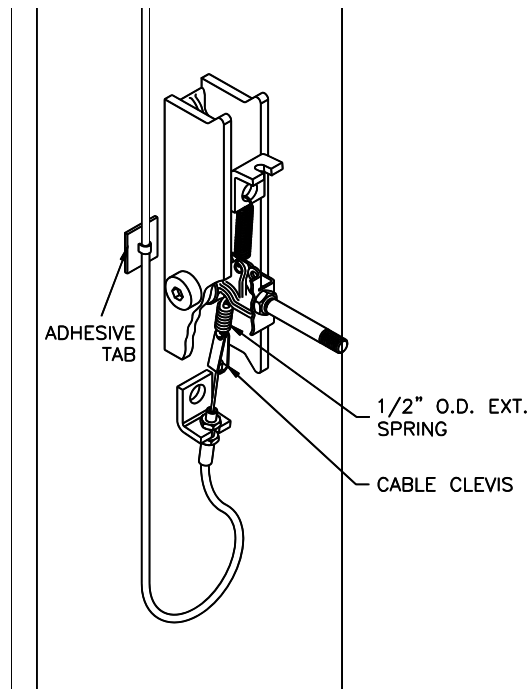

Fig 11 - Idler Column Lock Release Assembly
- 28) Attach Adhesive-Backed Tab to Idler Column left of the lock assembly (**Fig 11**). Route Lock Release Cable down left side of Idler Column and secure with loosely fit wire tie to Adhesive-Backed Tab. Attach Cable clevis to 1/2" O.D. Extension Spring.
- 29) Insert threaded sleeve portion of cable assembly in slot located on tab below lock pawl, **Fig 11**. With one jam nut located on each side of tab, adjust the threaded sleeve